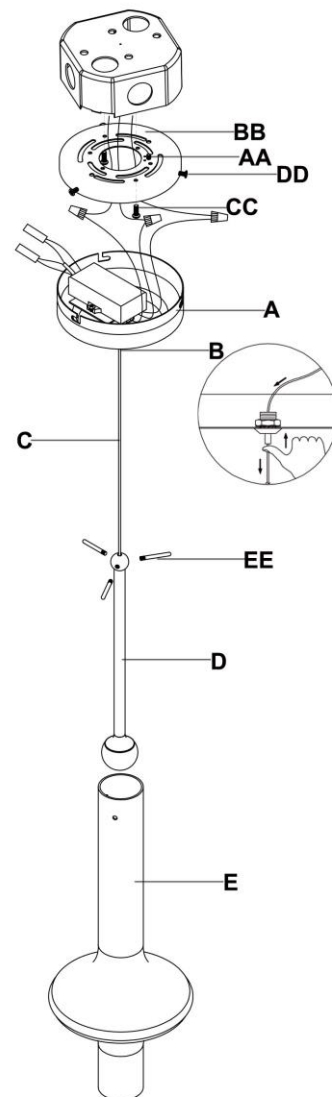

Fig. 2
CONNECTING THE WIRES (Fig. 2)
6. Connect the electrical wires as shown in Fig. 2, making sure that all wire connectors are secured. If your outlet has a ground wire (green or bare copper), connect the fixture's ground wire to it. Otherwise, connect the fixture's ground wire directly to the mounting plate (BB) using the green screw (AA) provided. Tuck the wire connections neatly into the junction box.